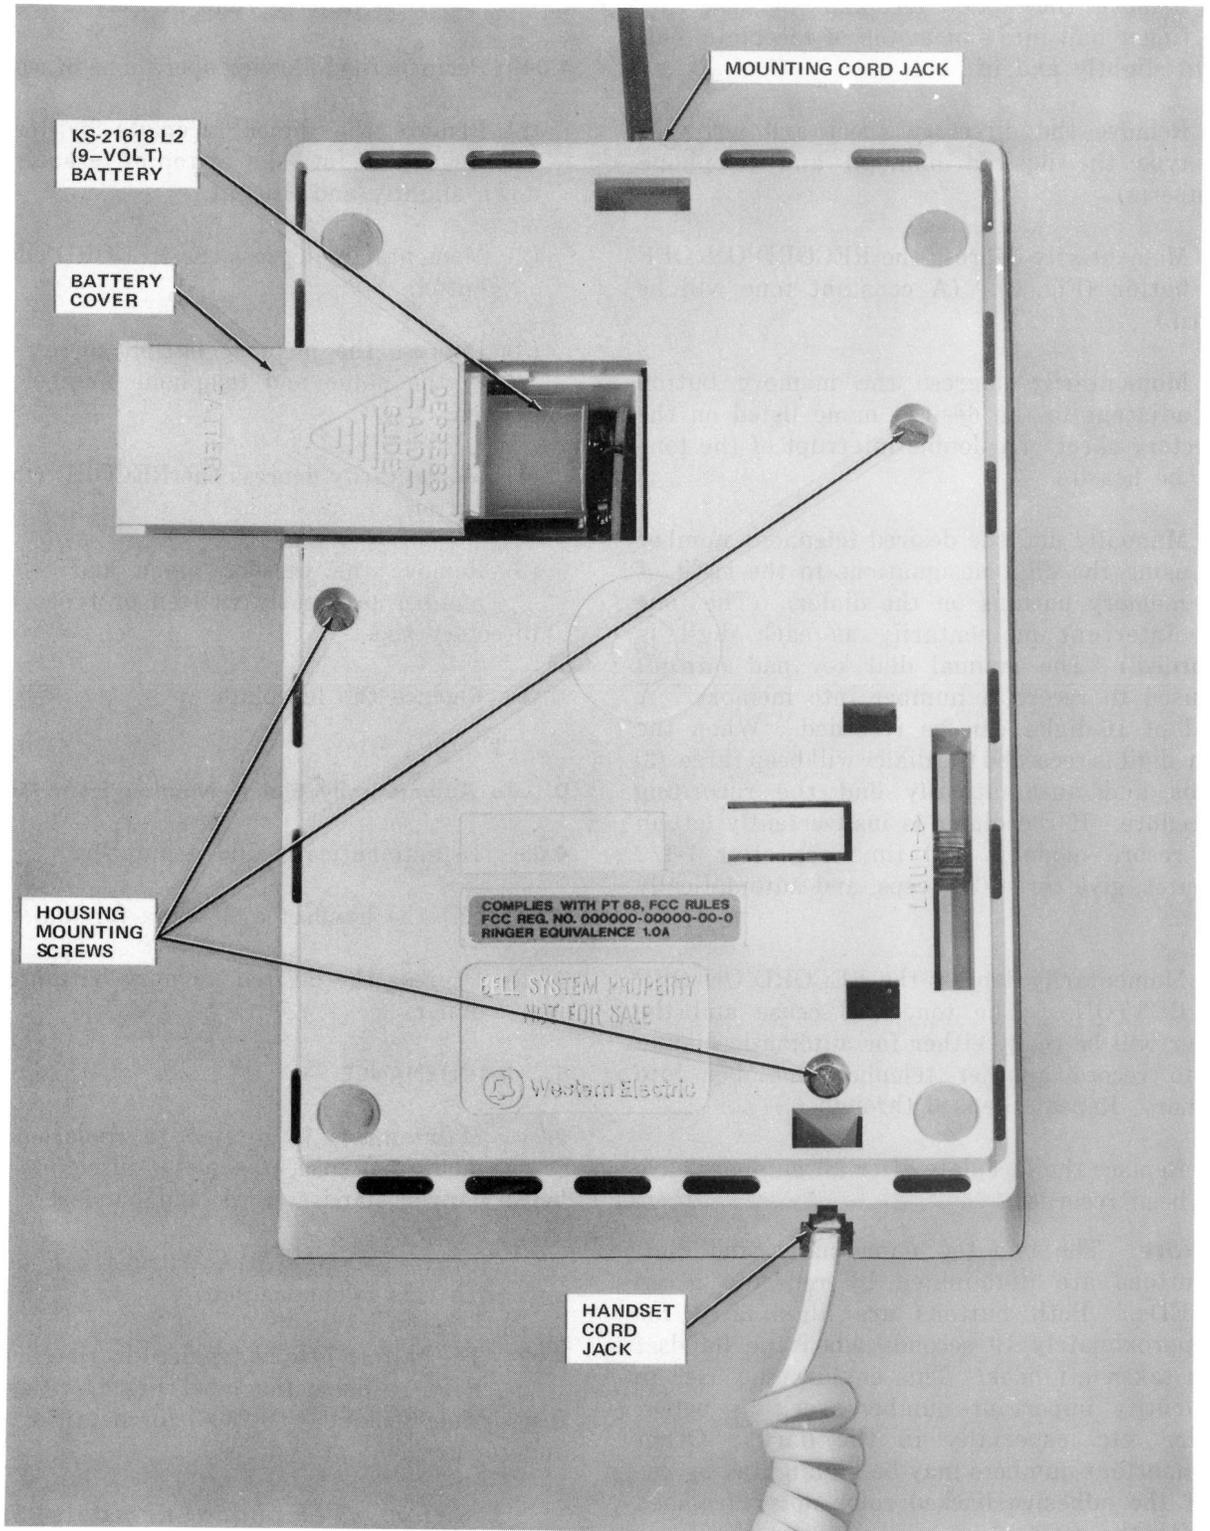

Fig. 3—5001T01A Telephone Set, Bottom View
3.02 The telephone set is shipped with a 9-volt alkaline battery which is to be connected at the time of installation. Remove the battery cover located on the bottom of the telephone set and make the necessary connections (Fig. 3). Place the battery in the battery compartment and replace the cover.
3.03 Plug one end of the mounting cord (D4BU) into the modular jack in the rear of the set and the other end into the 625-type modular connecting block. Connect the handset cord to the set (Fig. 3).
(1) Dial the appropriate code for ring-back to test the telephone set tone ringer. Move the ringer volume control lever (Fig. 3) on the bottom of the set to check variation of volume. There is no provision for ringer cut off using the volume control.
(2) Call the CO dial test line, when connected press the dial buttons in sequence 1 through 9, *, 0, and # verifying that correct signals is returned from the CO.